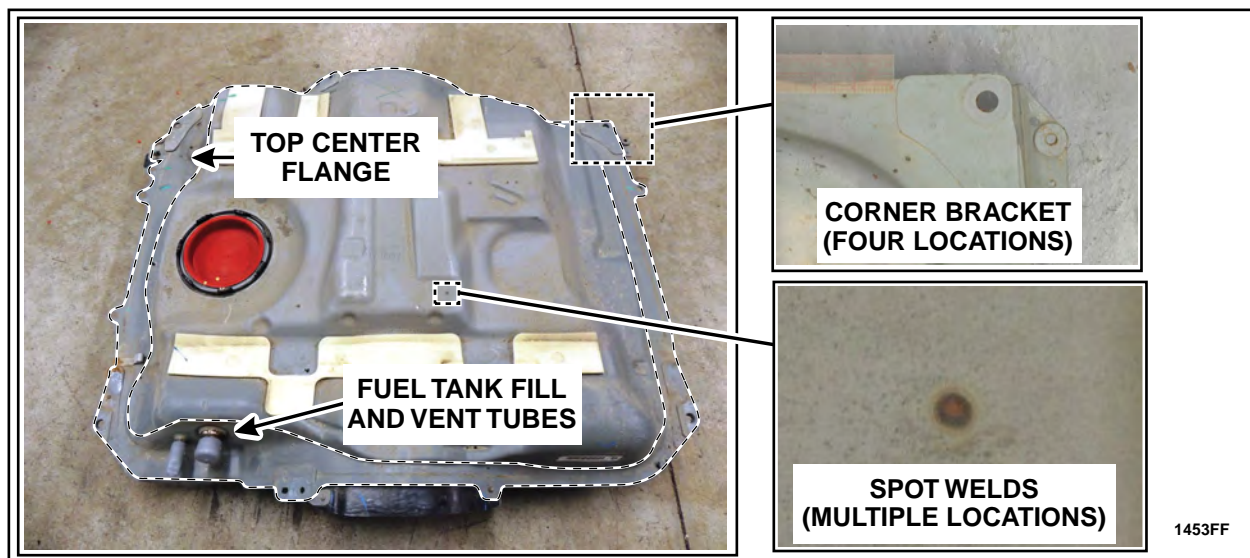

**FIGURE 6**
1. Inspect the bottom side of the fuel tank for a "FoMoCo" part number stamping. See Figure 6.